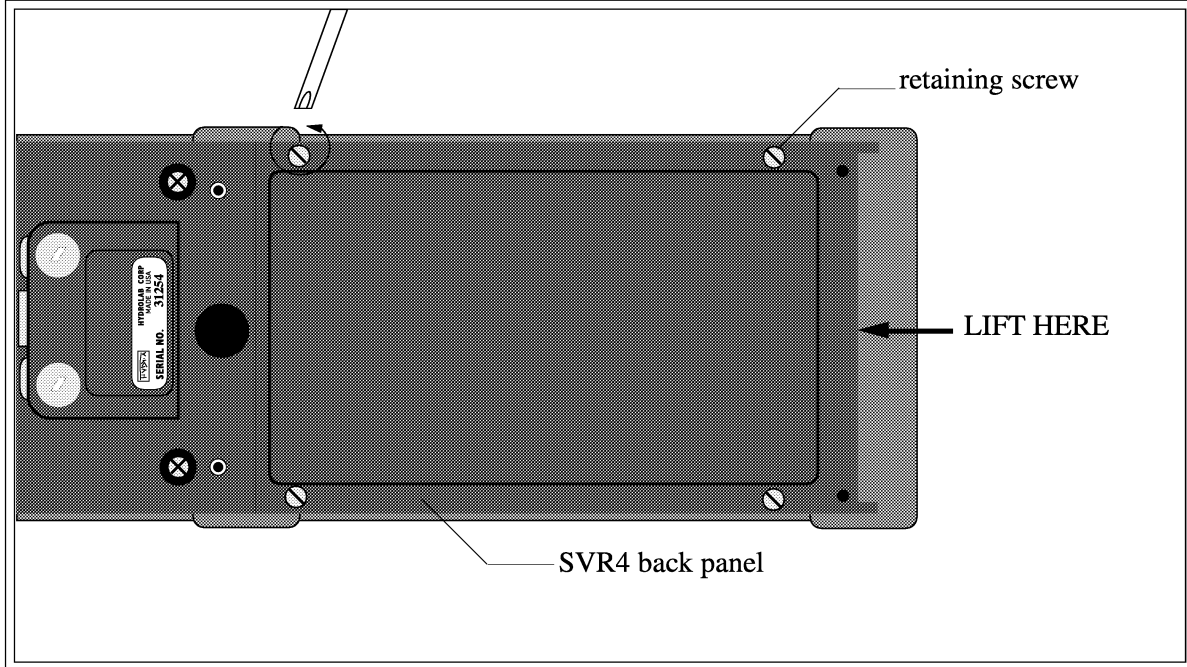

FIGURE 3: OPENING THE SURVEYOR 4 BACK PANEL
STEP 1: Make sure that your working surface is clean and dry. Disconnect any cable connected to your Surveyor 4. Turn your Surveyor 4 upside down on the working surface (see figure 3 on the next page). Unscrew the four retaining screws with the standard screwdriver. To facilitate reassembly, do not pull the screws completely out.
STEP 2: Lift the back panel from the bottom part of the Surveyor 4 (see arrow on fig. 3). If you feel some resistance, unscrew the retaining screws some more and try again.